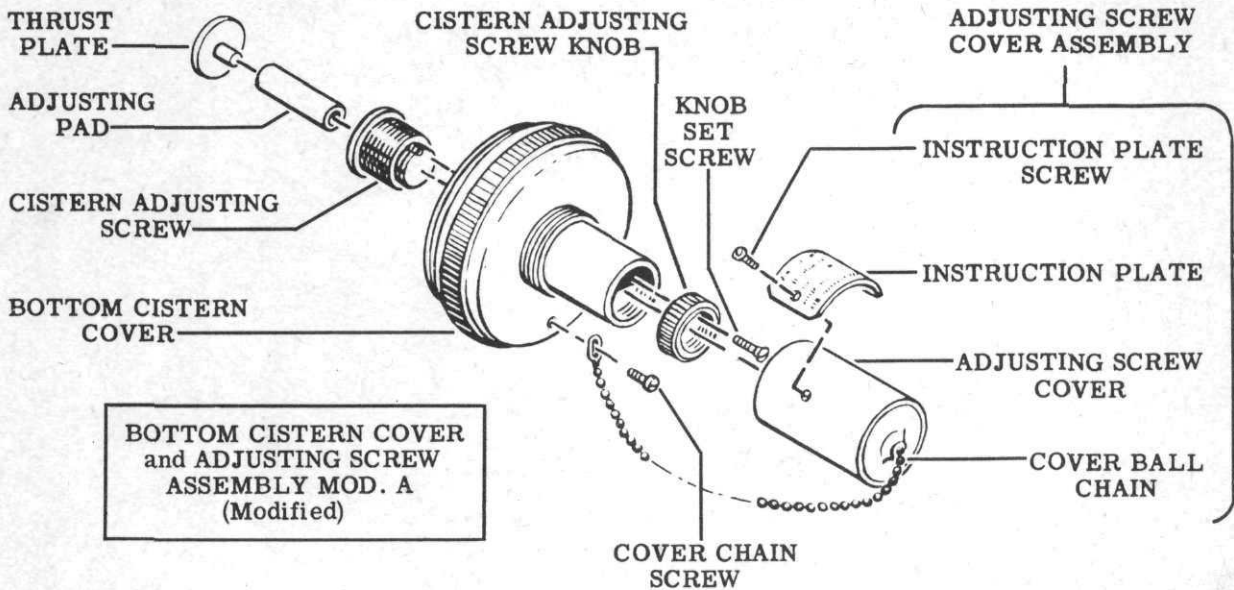

Figure 25
6. If the bottom cistern cover has been replaced a hole must be drilled for the cover chain screw. Drill this hole with a No. 50 drill (0.070 inch diameter) and tap for a No. 2-56 thread. See the exploded view, Fig. 25.
1. Screw the cistern adjusting screw knob onto the cistern adjusting screw. See the exploded view, Fig. 25.
will be in front and easily readable. See the exploded view, Fig. 25.
2. Position the instruction plate on the adjusting screw cover and mark the location of the two instruction plate screws. Drill two holes for the screws, using a No. 50 drill (0.070 inch diameter), and tap for a No. 2-56 thread. See the exploded view, Fig. 25.